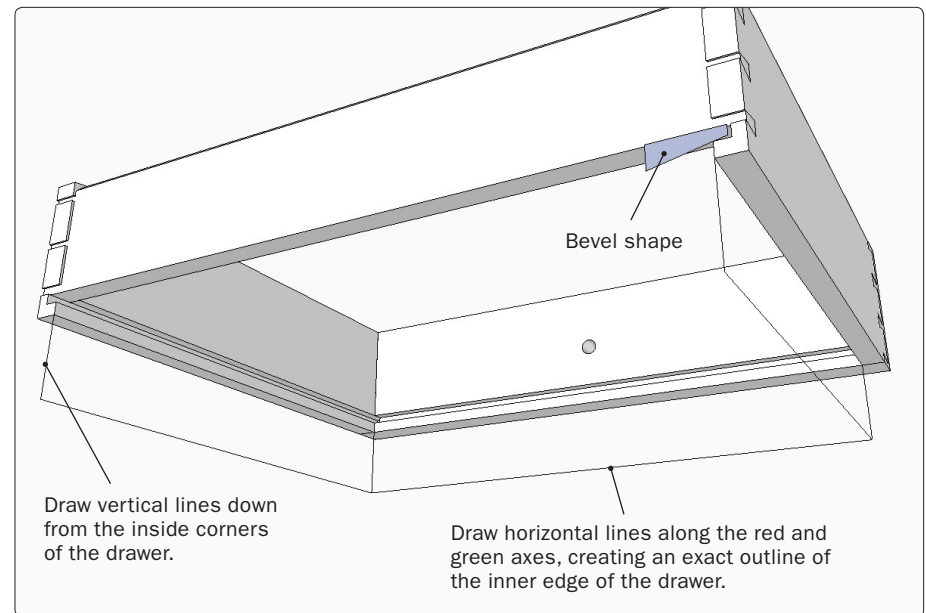

Figure 68. Draw a path so that the Follow Me Tool can extrude the beveled edge.
Step 55 To prepare for the Follow Me operation, draw a path that follows the exact outline of the inner edge of the drawer sides and front. Draw vertical lines down from the inner corners of the side components. Use these lines to guide the drawing of the path, as shown in Figure 68. Push the appropriate arrow keys to keep your lines on-axis.